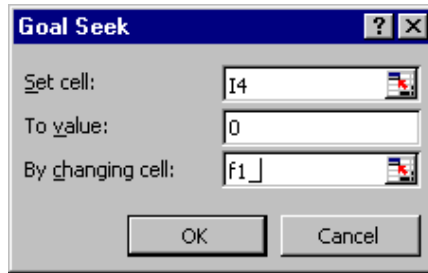

FIGURE 25:
- In Cell I4, enter $=20*\text{LOG10}(A_0/\text{SQRT}((1+(f_1/f_{P1})^2)*(1+(f_1/f_{P2})^2)*(1+(f_1/f_{P3})^2)))-b$. In Cell J4 enter f_1 . Then with Cell J4 and K4 highlighted, use INSERT/NAME/CREATE to name K4 as f_1 . Now, highlight cell I4 and use the toolbar TOOLS/GOAL SEEK. The resulting menu is shown in Figure 25. Fill in the menu as shown in the figure.